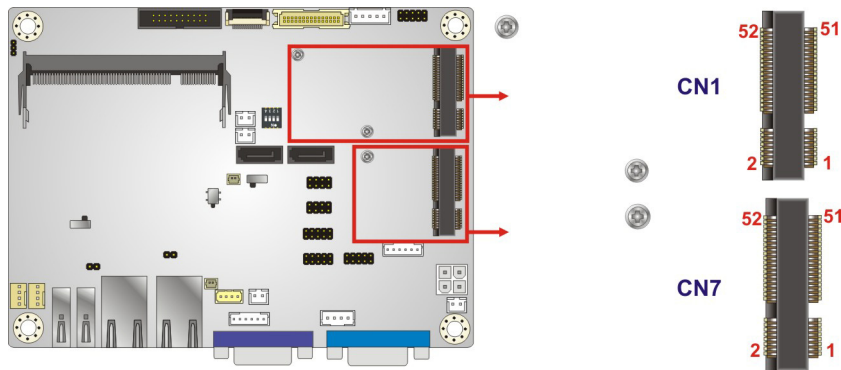

Figure 3-15: PCIe Mini Card Slot Location
- CN Location: See **Figure 3-15**